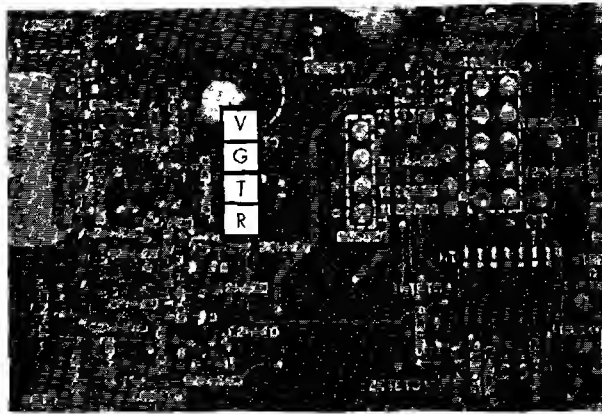

Figure 19-3: Solder a console cable to this four-pin port.
1. Once you've opened the modem, look for a four-pin console port on the PCB that is outlined with a white dashed box, as shown in Figure 19-3. Solder a console cable (like the one we made in Chapter 17) to this port.